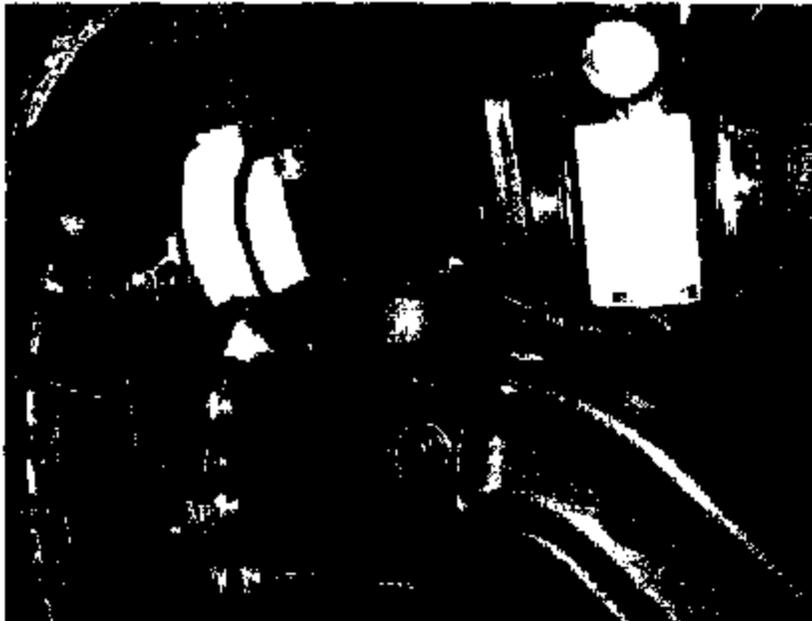

Figure 2
18. Inspect the ABS wheel sensor and harness assembly for any damage. The sensor is mounted into the axle spindle flange. Harness should be secured to the camshaft bracket. See Figure 2.